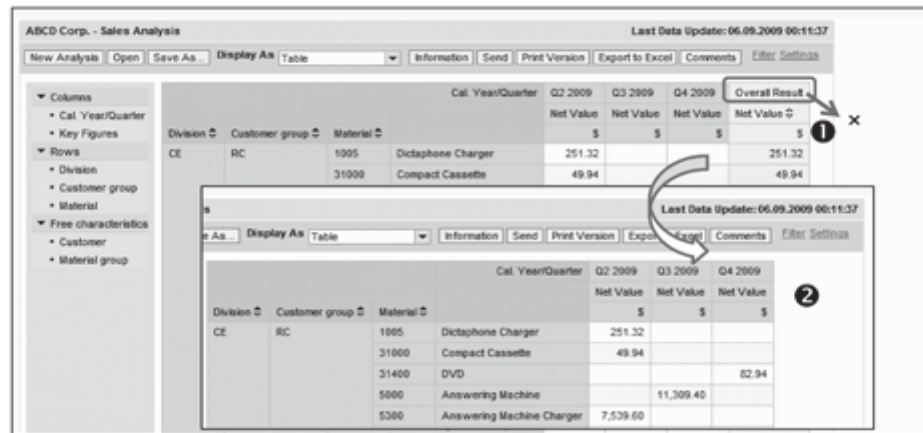

Figure 10.52 Navigation: Remove Result Rows
- ▶ **Remove result rows:** Using drag and drop, you can also remove the result values from the query result. This can be done by dragging the result row/column out of the result area (❶ of Figure 10.52) and that specific result row will be removed from the query result display (❷).